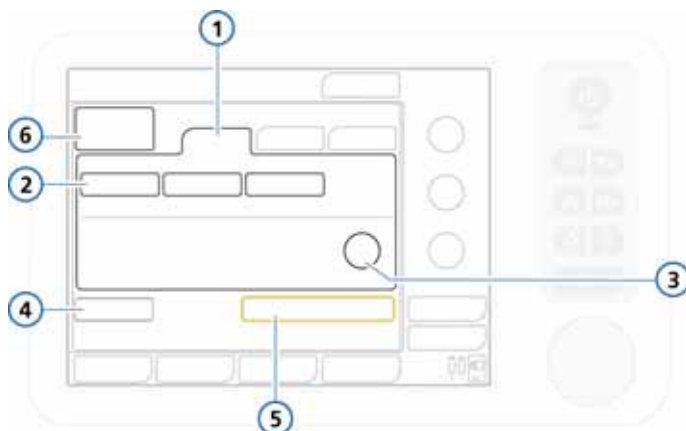

Figure 6-2. Neonatal patient group
1. In the Standby window, touch the **Neonatal** tab. See Figure 6-2.
In Figure 6-2, they are labeled **Neonatal 1**, **Neonatal 2**, and **Neonatal 3**. (The button names can be changed during configuration.) These settings are defined in configuration (Section G.6). Quick setups allow you to specify default options, including the ventilation mode to use.